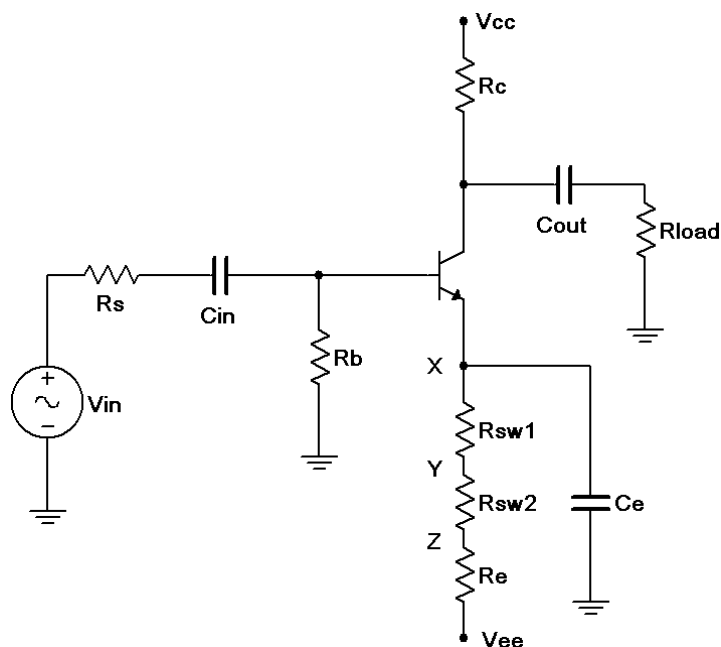

Figure 1
1. Consider the circuit of Figure 1 using  $V_{cc} = 15$  volts,  $V_{ee} = -12$  volts,  $R_s = 10$  k $\Omega$ ,  $R_b = 33$  k $\Omega$ ,  $R_e = 22$  k $\Omega$ ,  $R_{sw1} = 220$   $\Omega$ ,  $R_{sw2} = 1$  k $\Omega$ ,  $R_c = 15$  k $\Omega$ ,  $R_{load} = 20$  k $\Omega$ ,  $C_{in} = C_{out} = 10$   $\mu$ F and
2. Build the circuit of Figure 1 using  $V_{cc} = 15\text{ volts}$ ,  $V_{ee} = -12\text{ volts}$ ,  $R_s = 10\text{ k}\Omega$ ,  $R_b = 33\text{ k}\Omega$ ,  $R_e=22\text{ k}\Omega$ ,  $R_{sw1} = 220\ \Omega$ ,  $R_{sw2} = 1\text{ k}\Omega$ ,  $R_c = 15\text{ k}\Omega$ ,  $R_{load} = 20\text{ k}\Omega$ ,  $C_{in} = C_{out} = 10\ \mu\text{F}$  and  $C_e=470\mu\text{F}$ . Connect  $C_e$  to position X. Disconnect the signal source and check the DC transistor voltages to ensure that the circuit is biased correctly (note, the DC equivalent circuit is very similar to the ones used in the Emitter Bias Exercise and should exhibit similar DC voltage readings).